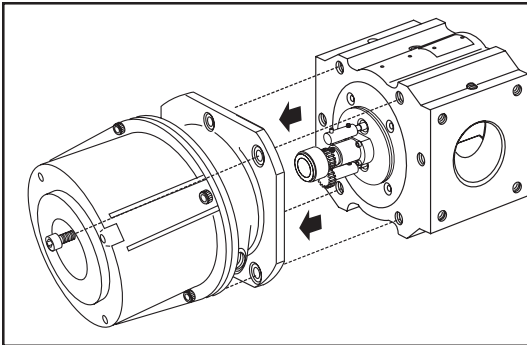

Fig. 3-13 Removing Case Cover
Step 1: Remove metric socket head cap screws from case cover and set aside. (Fig. 3-13) During cover removal, the rubber O-ring may fall loose. If so, simply reinstall it into the groove on the underside of the case cover.